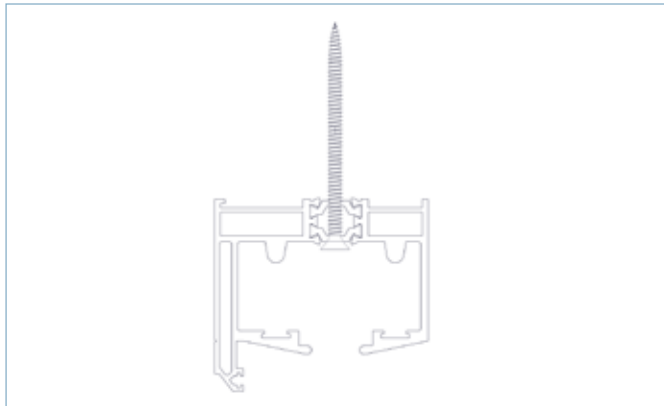

FIG 5E
- ▶ **5.6.** Install a fixing in the top track approximately 100mm in from the jamb as shown in FIG 5E, being careful not to lift the track from the top of the jamb when the fixing is tightened.